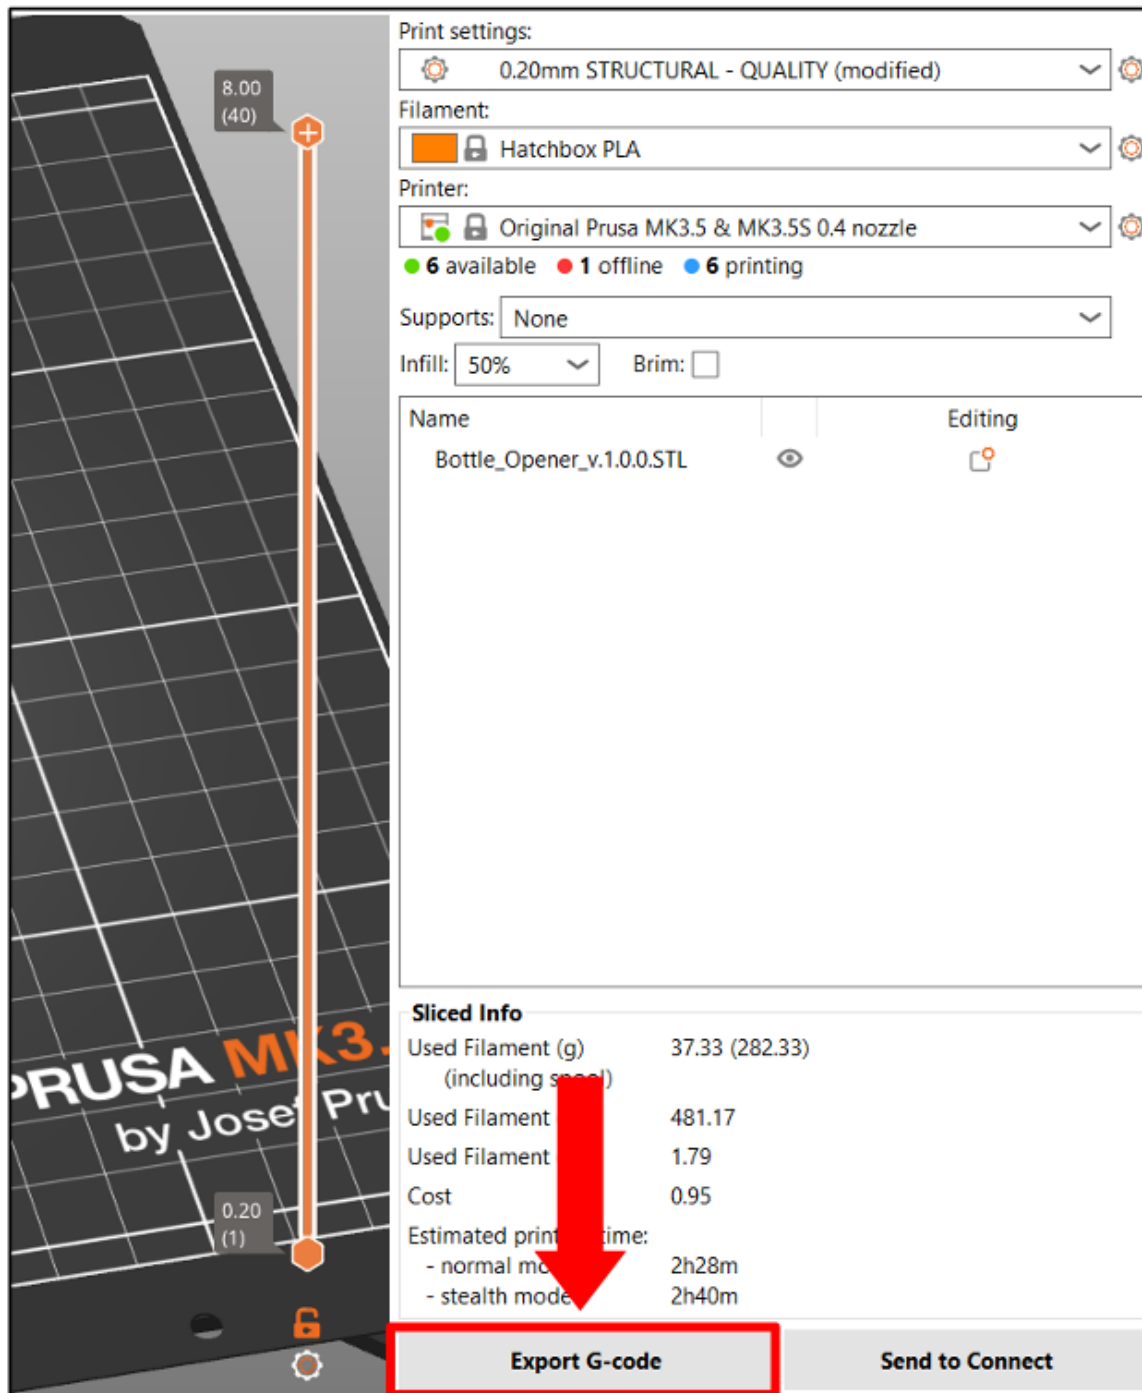

Figure 4
9) Once the slicing is finished, click "Export G-code" (see Figure 4) and save the G-code to a flash drive.